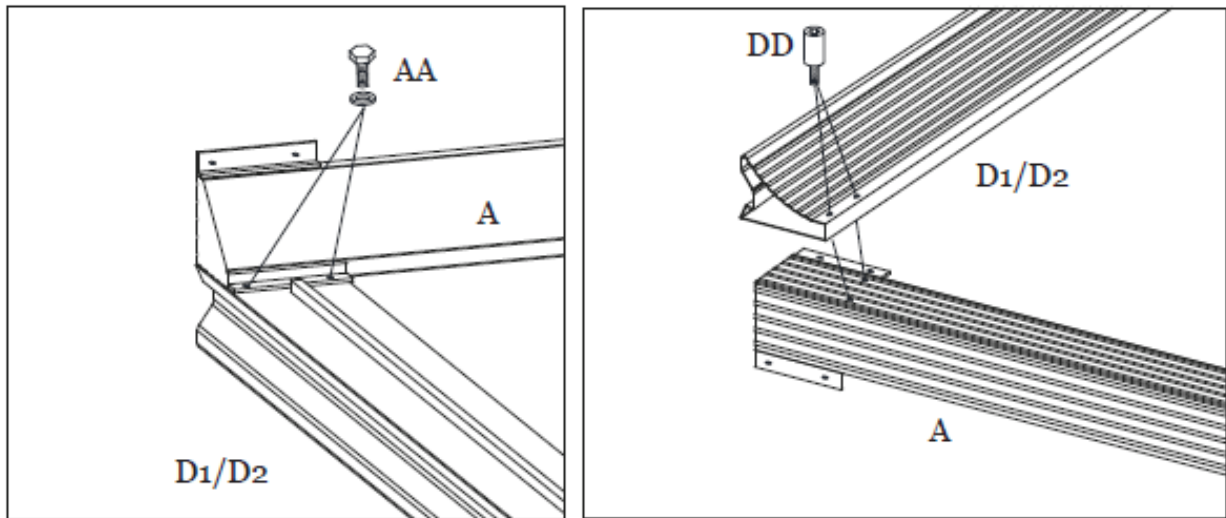

Figure 3-1
Step 3A: Attach Corner Posts (A) to end of Long Lintels (D1 and D2) first with Bolts (AA) then with Bolts (DD). **Tighten all Bolts.** See Figure 3-1.